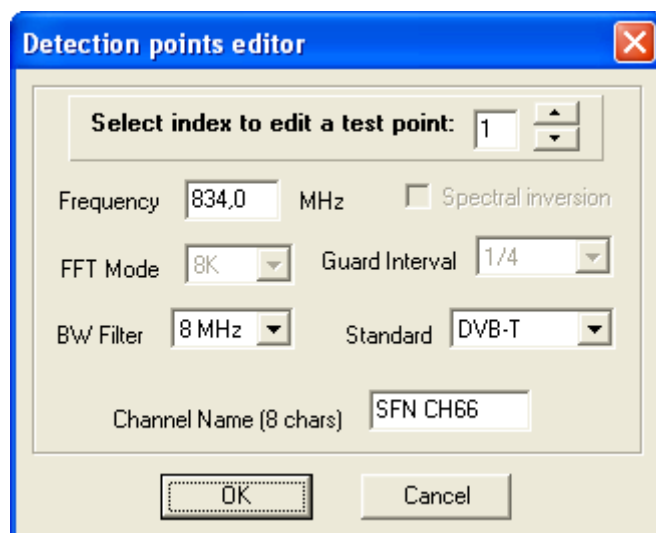

Figure 19. Configuring Detection Points.
The **"Detection Points Editor"** window allows you to define each point of detection (Figure 19.).
- **Editor** : This is an option only for using by qualified staff. It opens a text editor that enables you to edit, create, save and print ASCII files (figure 19). This application has the same basic functions than other text editors: Find, Copy, Cut, Paste, etc... Usually, there is no need to use this option, because the program automatically generates configuration files. Even so, in specific instances may be interested do small changes on these files. If you are going to do some changes on a configuration file in text format, be cautious because you can damage the whole file.